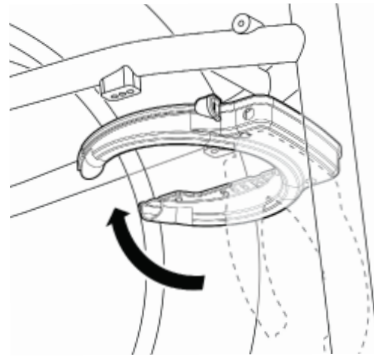
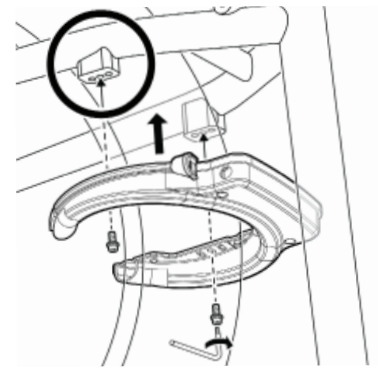
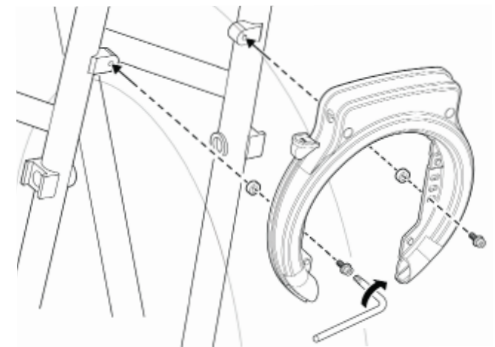

Figure 5: Install the lock; frame mount position #1
Figure 6: Install bolts with captive washers; frame mount position #1
Figure 7: Install the lock; frame mount position #2
4. **Position the lock.** Place the lock into position against the bike frame, according to your bike model (Figure 5 and Figure 7). Make sure the lock mounts sit flat against the frame mounts. RadRunner 2 owners, see notice on Page 3.
- a. **For frame mount position #2 only:** You MUST include a 5 mm spacer on each bolt, between the lock and frame mount (Figure 7).
- b. If your bike frame has three threaded holes on the **frame mount**, use the middle threaded hole on the **frame mount** (see the circle on Figure 6).
- c. Make sure to insert the bolt through the appropriate **lock mount** for your bike, and thread it into the frame mount a few turns (Figure 6 and Figure 7). Do not completely tighten the first bolt yet, or the second bolt will be very difficult to install. Repeat for the second bolt.